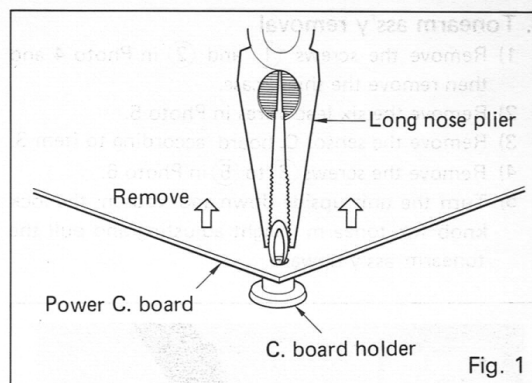

Fig. 1
- 1) Disconnect the connectors (A) to (D) in Photo 2.
- 3) Pinch the hooked end of circuit board holders ① to ④ on each corner of main circuit board by means of Long nose plier and gently lift the corner to remove the main circuit board, as shown Fig. 1.